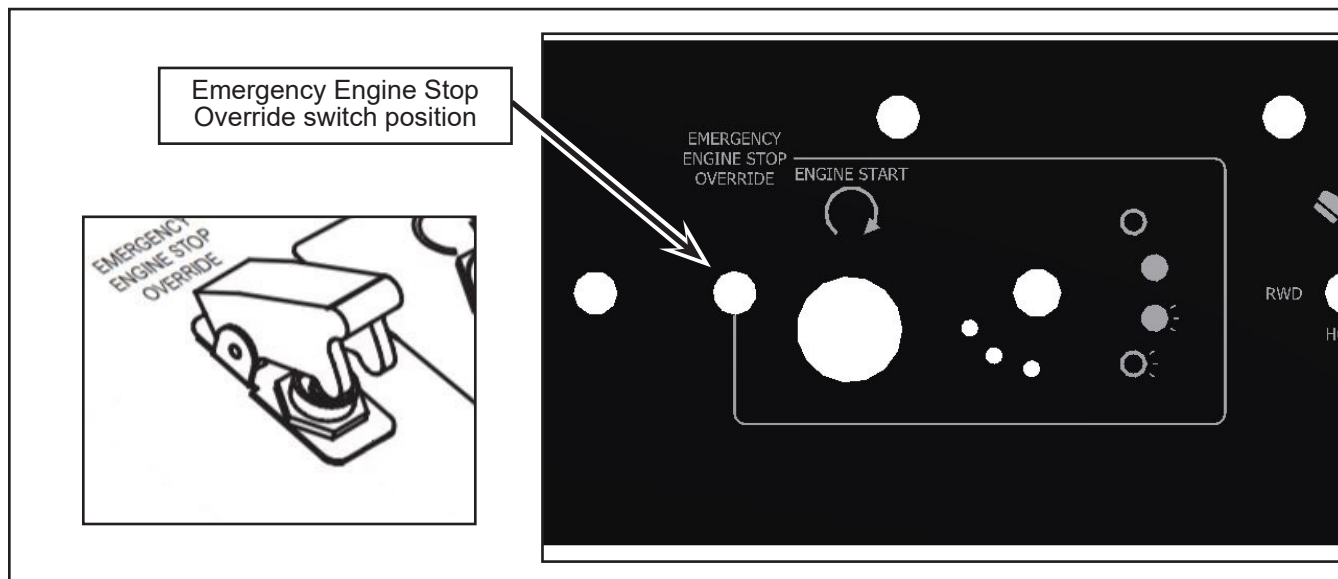

Figure 3 - Emergency Engine Stop Override Switch Location
- 1.10. In the new hole, install the new toggle switch +CS-SW89A1 (N14762) and the new switch guard (2008706) (Figure 3).